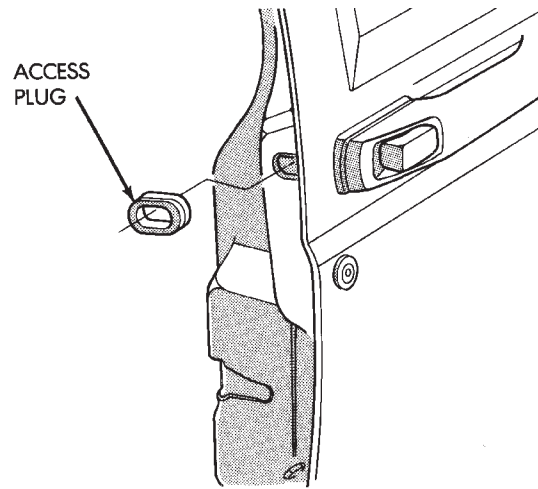
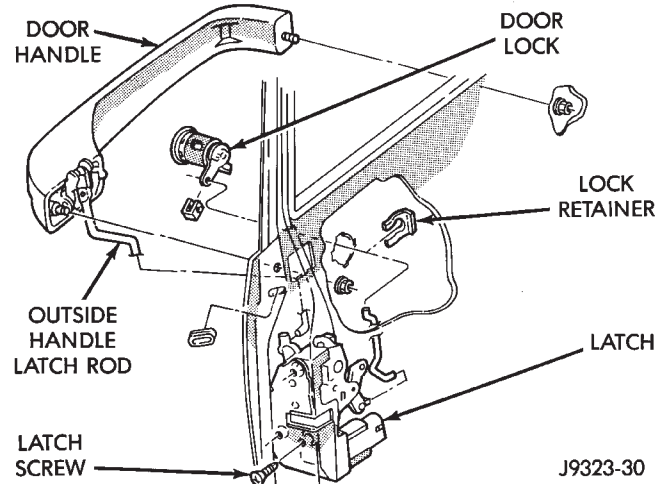

Fig. 15 Access Plug
Fig. 16 Outside Door Handle
- (3) Disconnect handle latch rod from latch (Fig. 16).
- (4) Remove gaskets from door, if necessary.
- (1) Remove door trim panel and waterdam. If necessary, refer to installation procedure.
- (2) Remove access hole cover (Fig. 15). Remove door handle retaining nuts (Fig. 16).